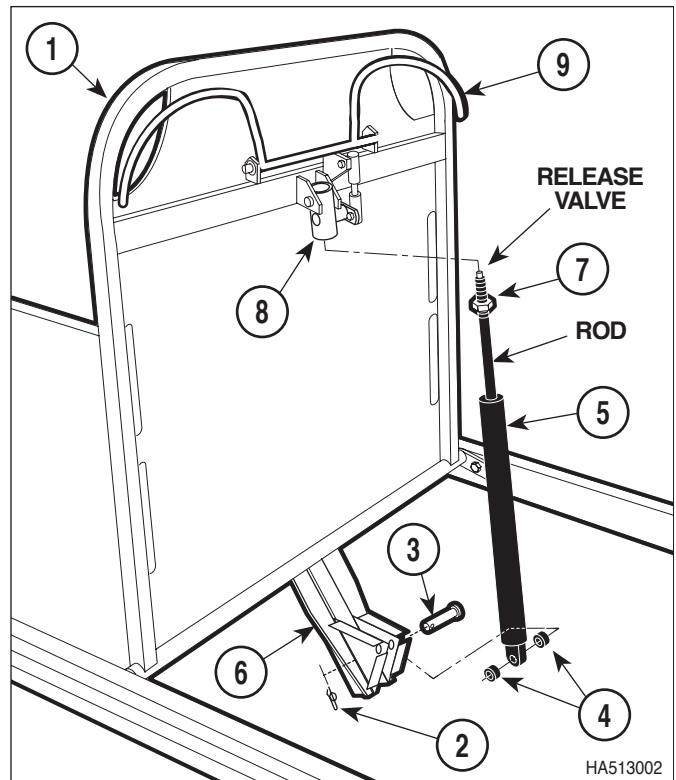

Figure 4-5. Fowler Gas Spring Removal / Installation
- (1) Raise the Fowler (1, Figure 4-5) to the “up” position if possible.
- (3) Position bottom of Fowler gas spring (5) on Fowler bracket (6) and secure with two rubber springs (4), clevis pin (3), and rue ring (2). See Figure 4-5.
- (4) Squeeze the Fowler handle (9). The Fowler gas spring (5) should release when the handle is squeezed - meaning the Fowler should be able to be raised and lowered. Release the Fowler handle. Put pressure on the Fowler section. The Fowler should not "drift" downward. See Figure 4-5.
- (5) If the Fowler gas spring (5) does not release when the Fowler handle (9) is squeezed, adjust as follows: Remove Fowler gas spring (5) from bottom bracket. Turn Fowler gas spring (5) half a turn into actuator (8) and reassemble. It might be necessary to turn only quarter turns, at which point the jam nut (7) will need to be tightened prior to rotating Fowler (Item A) to line up with lower bracket. Repeat steps 4 and 5 until the Fowler gas spring releases properly. See Figure 4-5.
- (6) If the Fowler gas spring (5) "drifts" downward when pressure is applied to the Fowler (1), adjust as follows: Remove Fowler gas spring (5) from bottom bracket. Turn Fowler gas spring (5) half a turn out of actuator (8) and reassemble. Repeat steps 4 and 6 until the Fowler gas spring does not "drift". See Figure 4-5.
- (7) Using vise grips and cloth to hold rod of Fowler gas spring (5) from rotating, tighten jam nut (7). Tighten jam nut to 12 - 17 ft-lbs (16.2 - 23.0 N·m). See Figure 4-5.